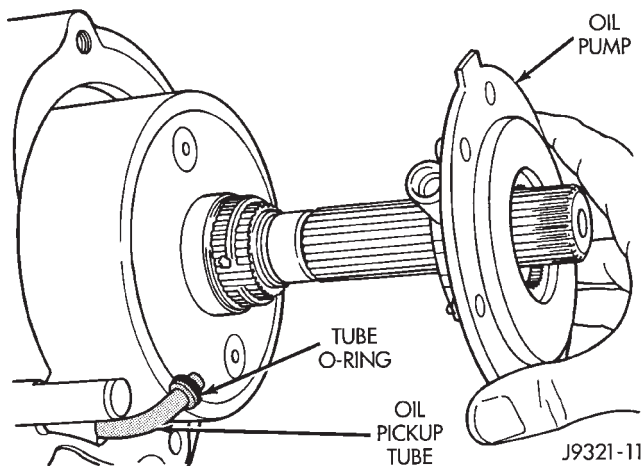

Fig. 89 Installing Oil Pump
- (1) Install oil pump (Fig. 89).